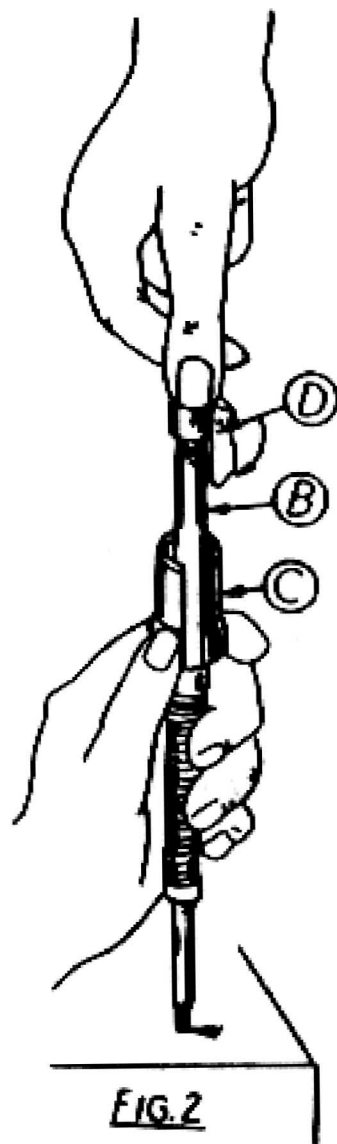

FIG. 2
27 GRASP THE SLEEVE (C) AND PULL DOWN, AS IN FIG. 2. PLACE THE COCKING PIECE (D) OVER THE END OF THE STRIKER (B) AS SHOWN, AND TURN CLOCKWISE.